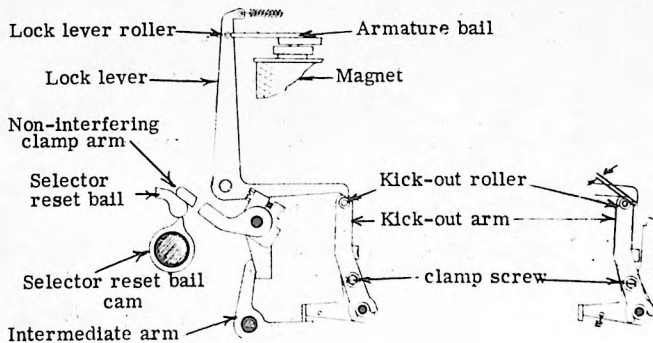

Figure 18
8.10          Non-Interfering Clamp Arm (Figure 18)
8.11          Kick-Out Arm (Figure 18)